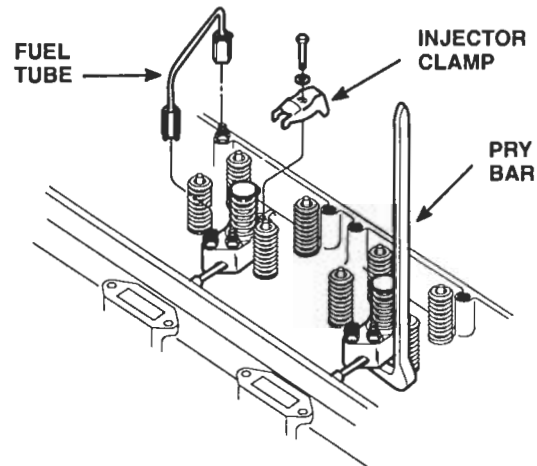

Figure 6. Removing Injector from Cylinder Head
4. Remove the two rocker shaft bracket bolts and swing the rocker arms away from the injector and valves (Figure 6.)